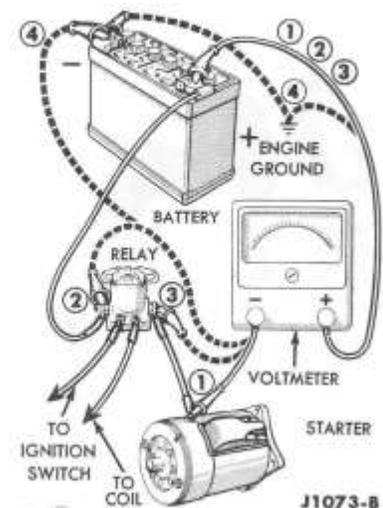

FIG. 9—Starter Circuit Test
Excessive resistance in the starter circuit can be determined from the results of this test. Make the test connections as shown in Fig. 9. Crank the engine with the ignition OFF. This test is accomplished by disconnecting and grounding the high tension lead from the spark coil and by connecting a jumper from the battery terminal of the starter relay to the ignition switch terminal of the relay.
1. With the voltmeter negative lead connected to the starter terminal and the positive lead connected to the battery positive terminal (Fig. 9, connection ①)0.5 volt.
2. With the voltmeter negative lead connected to the battery terminal of the starter relay and the positive lead connected to the positive terminal of the battery (Fig. 9, connection ②)0.1 volt.
3. With the voltmeter negative lead connected to the starter terminal of the starter relay and the positive lead connected to the positive terminal of the battery (Fig. 9, connection ③)0.3 volt.
4. With the voltmeter negative lead connected to the negative terminal of the battery and the positive lead connected to the engine ground (Fig. 9, connection ④) ...0.1 volt.